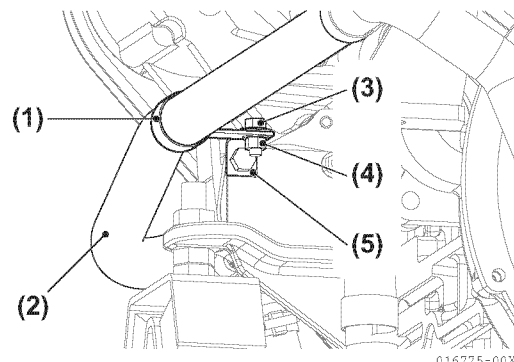

Figure 5-179
- When the 4JH4AE is coupled with SD50 For gear case side seawater pipe, fasten the upper side bolt with the bracket. Clamp the pipe with the retainer and attach to bracket (Figure 5-179).